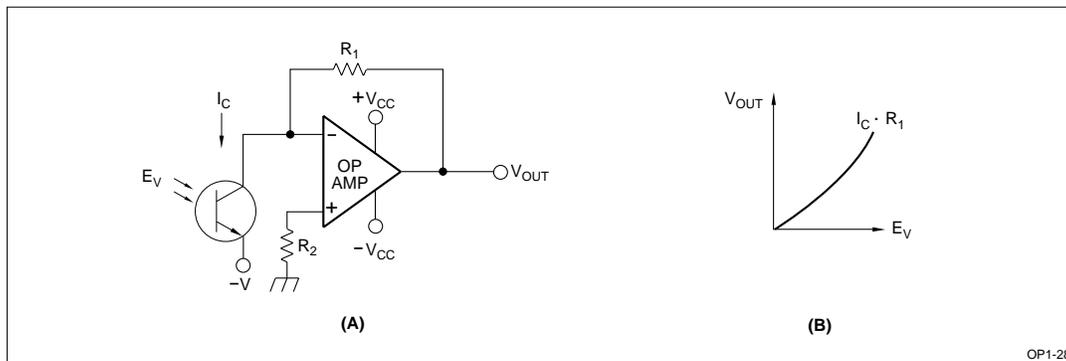

Figure 13. Amplifier Circuit using an Operational Amplifier
Figure 13 shows a current-voltage conversion circuit using an operational amplifier. Its output voltage ( $V_{OUT}$ ) is expressed as  $V_{OUT} = I_C \times R_1$ .
The current-voltage conversion circuit for the phototransistor is basically identical to that of the photodiode, except that the phototransistor requires a bias. The circuit shown in Figure 13 (A) has a negative bias ( $-V$ ) for the emitter against the virtually grounded collector potential. Figure 13 (B) shows the output voltage vs. irradiation intensity characteristics.